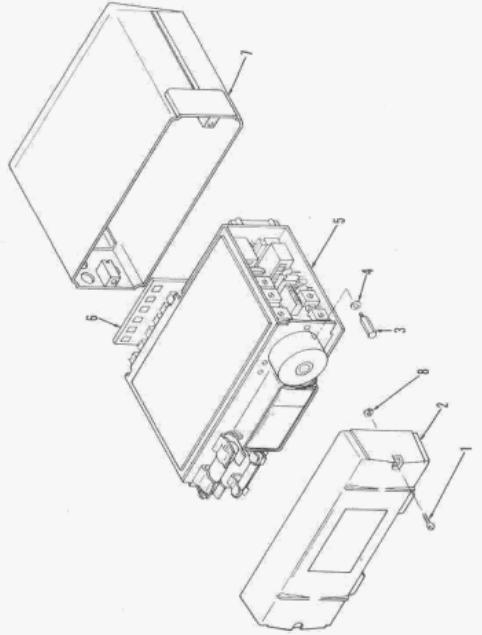

Figure 2-1. Case and Rear Cover Removal
2-2. USE AND REAR COVER. Remove the digital multimeter from the case in accordance with fig. 2-1 and the following procedure.
- c. Loosen two screws (1, fig. 2-1) and remove rear cover (2) from case (7).
g. Position rear cover (2, fig. 2-1) on case (7) and secure by tightening two screws (1).